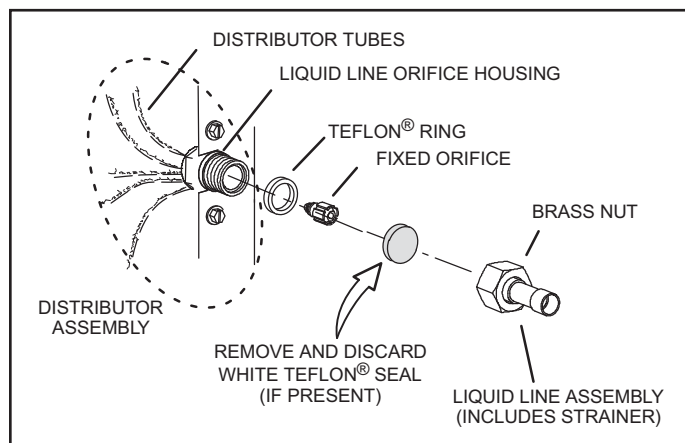

Figure 10. Remove Fixed Orifice (Uncased Coil Shown)
4. Remove and discard fixed orifice, valve stem assembly (if present) and Teflon® washer, as shown in Figure 10.